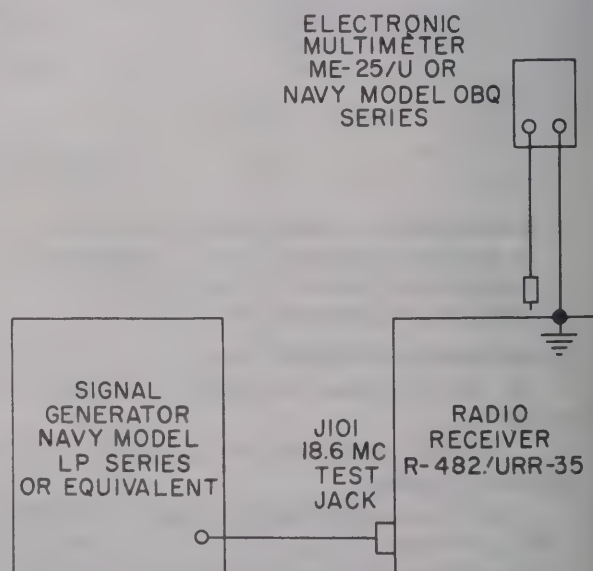
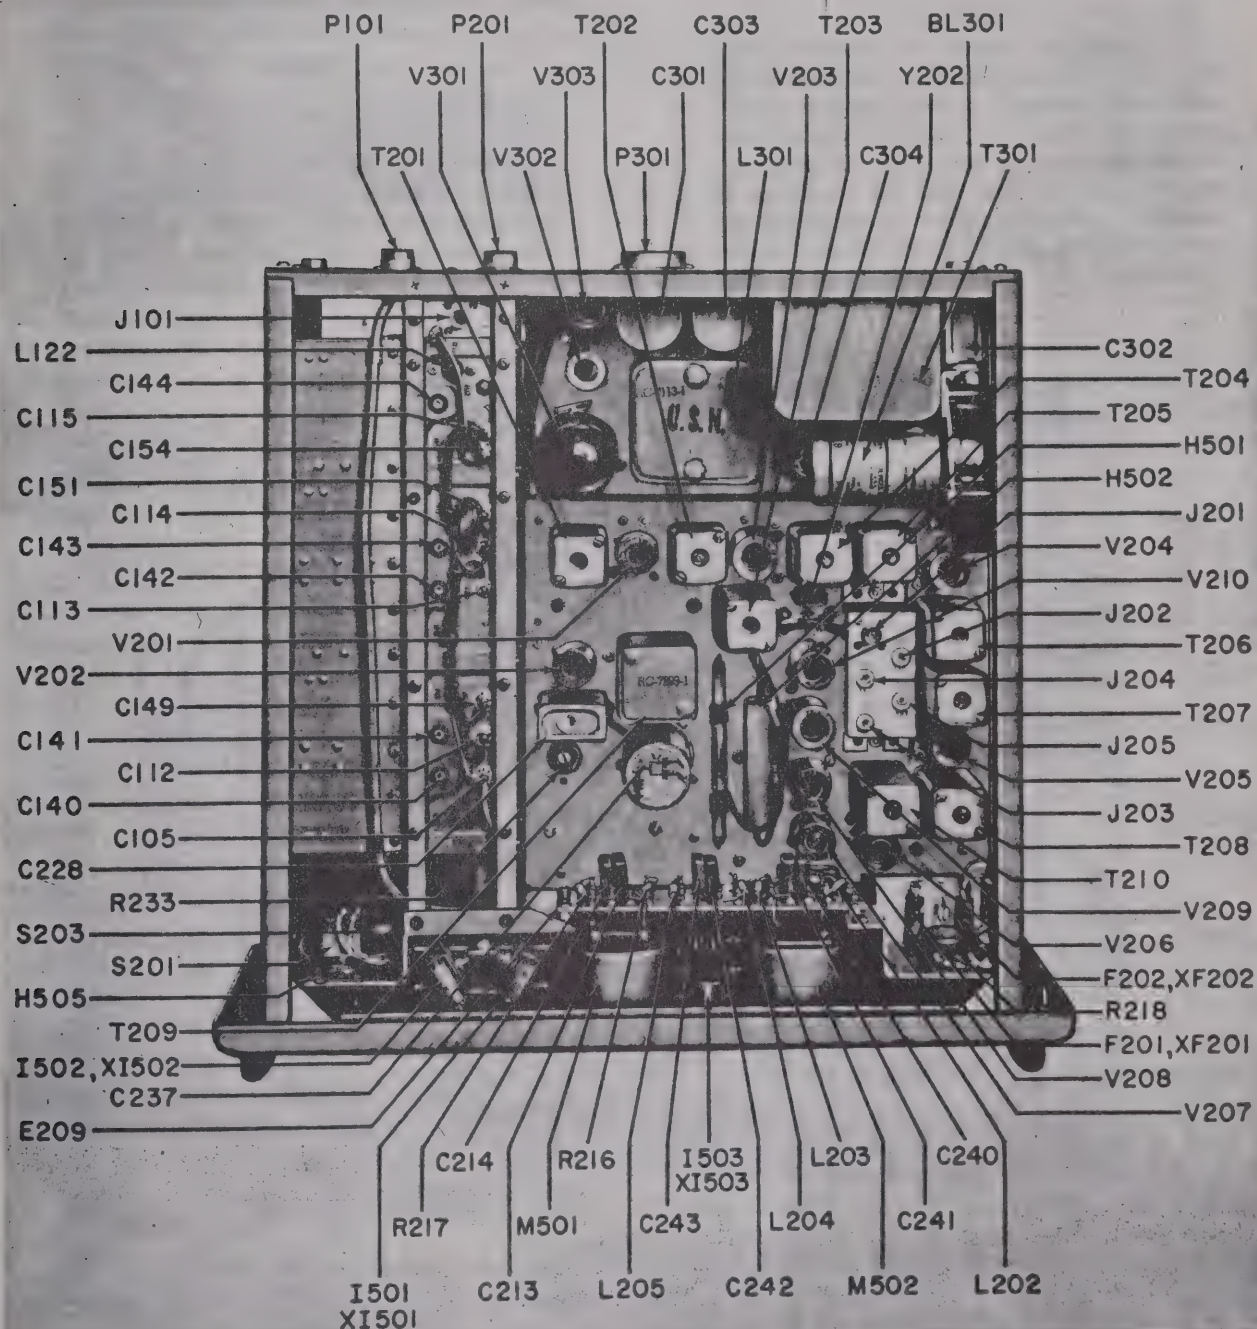
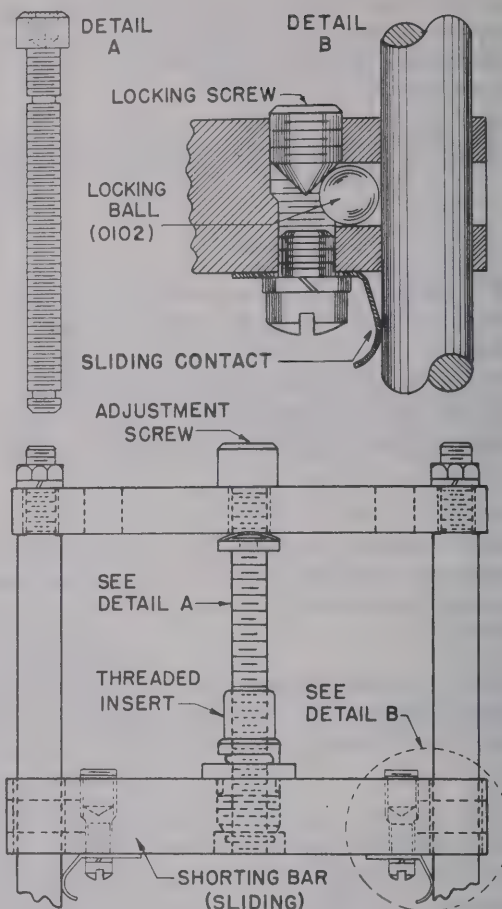

Figure 7-4. Bench Test Set-Up for I-F Alignment
Figure 7-5. Radio Receiver R-482/URR-35, Top View—Identification of Components
Figure 7-9. Details of Trimmer Inductances L103, L104, L107, L108, L111 and L112
(1) RF Signal Generator AN/URM-25 series, Navy Model LP series, or equivalent signal generator having output impedance of 50 ohms.
(2) RF Signal Generator Navy Model LAF series, or equivalent.
(3) Multimeter ME-25/U series, Vacuum Tube Volt-Ohm-Milliammeter Navy Model OBQ series, or equivalent.
(4) Insulated alignment tool H501 and alignment loading tool H502, both mounted in clips on receiver chassis; see figure 7-5.
FUSE HOLDERS XF201 AND XF202 AT THE RIGHT SIDE OF THE FRONT SUB-PANEL; SEE FIGURE 7-5.
c. ALIGNMENT OF I-F SECTION. (See figure 7-4.)
(1) Connect the output of RF Signal Generator AN/URM-25, or Navy Model LP, or equivalent, to 18.6-mc test jack J101 (see figure 7-5). Use type RG-58/U cable for connections.
Refer to figures 7-5 and 7-6 for the locations of test jacks, i-f transformers and their terminals, and controls, as well as for the use and location of alignment tool H502.
d. ALIGNMENT OF AGC TRANSFORMER T210. (See figure 7-4.)
(1) Perform steps (1) through (5) of paragraph 4c, this section.
(2) Turn the output control of the signal generator to zero and note the AGC voltage, as indicated on the electronic multimeter. Increase the signal generator output until the AGC voltage just starts to increase.
(3) Connect the electronic multimeter between detector test jack J203 (see figure 7-5) and ground.
(4) Tune transformer T210 (see figure 7-5) for *minimum* indication on the electronic multimeter.
(1) Connect the electronic multimeter between AGC test jack J204 (see figure 7-5) and ground.
(2) Set the OSC. switch to its MANUAL position.
(3) Tune the receiver throughout its entire range to find the lowest AGC voltage as indicated by the electronic multimeter.
(4) If the AGC voltage on the electronic multimeter is other than -2.3 volts, adjust it to that value by means of I.F. GAIN control R233, shown in figure 7-5. If it is not possible to adjust the AGC voltage to -2.3 volts, set it to the greatest negative voltage that can be obtained, which should be at least -2.0 volts. A maximum AGC voltage of less than -2.0 volts indicates a faulty receiver.
A D-C POTENTIAL OF 180 VOLTS IS PRESENT AT SOME OF THE INDUCTANCE AND CAPACITOR TRIMMER SCREWS AND AT SOME OF THE TRIMMER-INDUCTANCE LOCKING SCREWS. WHEN LOOSENING OR TIGHTENING THE LOCKING SCREWS BE CERTAIN THAT RECEIVER POWER IS OFF. USE THE INSULATED ALIGNMENT TOOL (H501, FIGURE 7-5) FOR ALL SPLINED TRIMMER-SCREW ADJUSTMENTS.
(1) De-energize the receiver and remove the shielding covers from the preselector. Loosen the locking screws on trimmer inductances L103, L104, L107, L108, L111 and L112 (see figures 7-9 and 7-10) about one-eighth of a turn, using the Bristol wrench (H505, figure 7-5) mounted near the dial-drive assembly. Replace the shielding covers.
(2) Connect the output of RF Signal Generator Navy Model LAF, or equivalent, to the 50 OHM ANT. input connector (J404) on the low-pass filter. Adjust the output attenuator of the signal generator for minimum output.
(3) Install a crystal, in the receiver CRYSTAL holder, which corresponds to some channel frequency between 230 and 234 megacycles, as determined by the formula:
(5) Place the probe of the electronic multimeter on second-doubler-grid test point C124 and tune second-doubler-grid inductance L115 for a maximum meter reading.
(6) Place the probe of the electronic multimeter on tripler-grid test point C131 and tune tripler-grid inductance L117 for a maximum meter reading.
(7) Place the probe of the electronic multimeter on the trimmer screw of mixer-grid inductance L111 and tune tripler-plate inductance L112 for a maximum meter reading.
(8) Connect the electronic multimeter between AGC test jack J204 and ground; see figure 7-5.
(14) Place the probe of the electronic multimeter on second-doubler-grid test point C124 and tune second-doubler-grid trimmer capacitor C147 for a maximum meter reading.
(15) Place the probe of the electronic multimeter on tripler-grid test point C131 and tune tripler-grid trimmer capacitor C145 for a maximum meter reading.
(16) Place the probe of the electronic multimeter on the trimmer screw of mixer-grid inductance L111 and tune tripler-plate trimmer capacitor C146 for a maximum meter reading.
(17) Connect the electronic multimeter between AGC test jack J204 and ground; see figure 7-5.
(18) Tune the signal generator for a maximum reading on the meter. The output attenuator of the signal generator should then be adjusted to give a reading of approximately 4 volts on the electronic multimeter (0.4 on the INPUT meter).